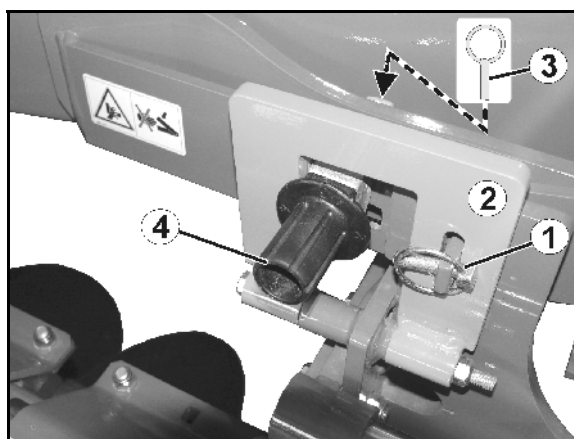

Fig. 41
1. Release the clip pin of the locking clip (Fig. 41/1).
2. Fold down the locking clip (Fig. 41/2).
4. Release the clip pin of the eccentric pin (Fig. 41/3).
5. Fit the eccentric pin (Fig. 41/4) into the required insertion hole.
1. Release the safety splint of the locking clip (Fig. 41/1).
3. Release the clip pin of the eccentric pin (Fig. 41/3).